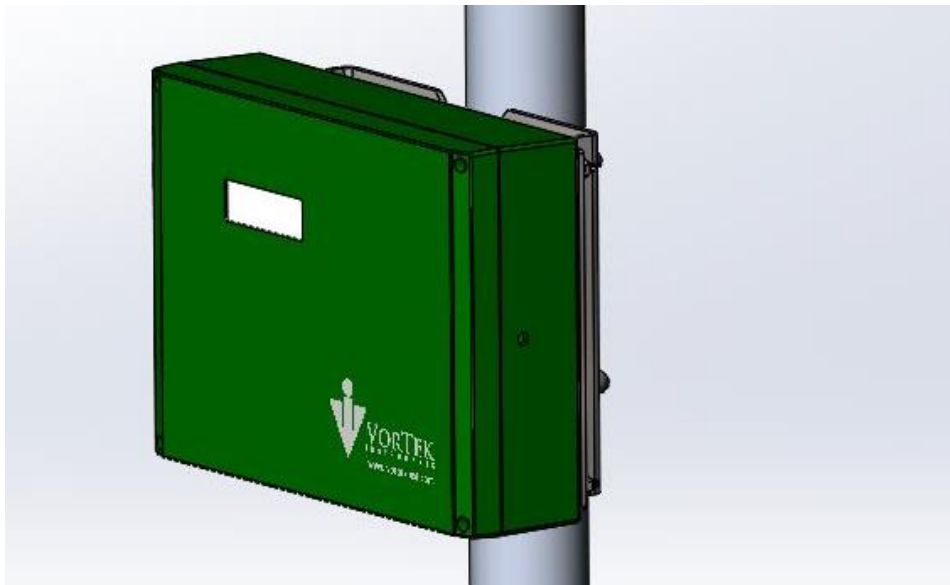

Figure 2-23. Enclosure with Pipe Mounting Bracket
14. The enclosure is now fully attached to the mounting bracket and therefore to the pipe. The assembly should resemble that of Figure 2-23. The lid can be closed and reattached to the bottom half of the enclosure or the lid can be left open to complete the wiring which is described in the next section.